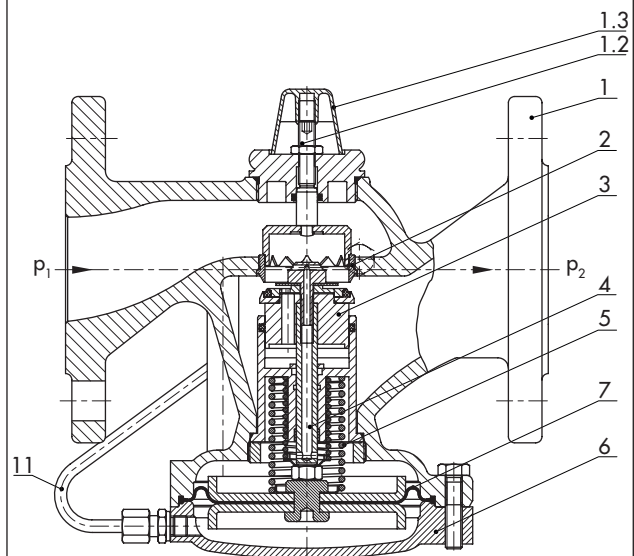

Fig. 4: Type 45-9 with flanged valve body (DN 32 to 50)
**Note on Fig. 4 and Fig. 5:** Actuator case and control line are turned into the plane of projection. The line is located in front of the body.